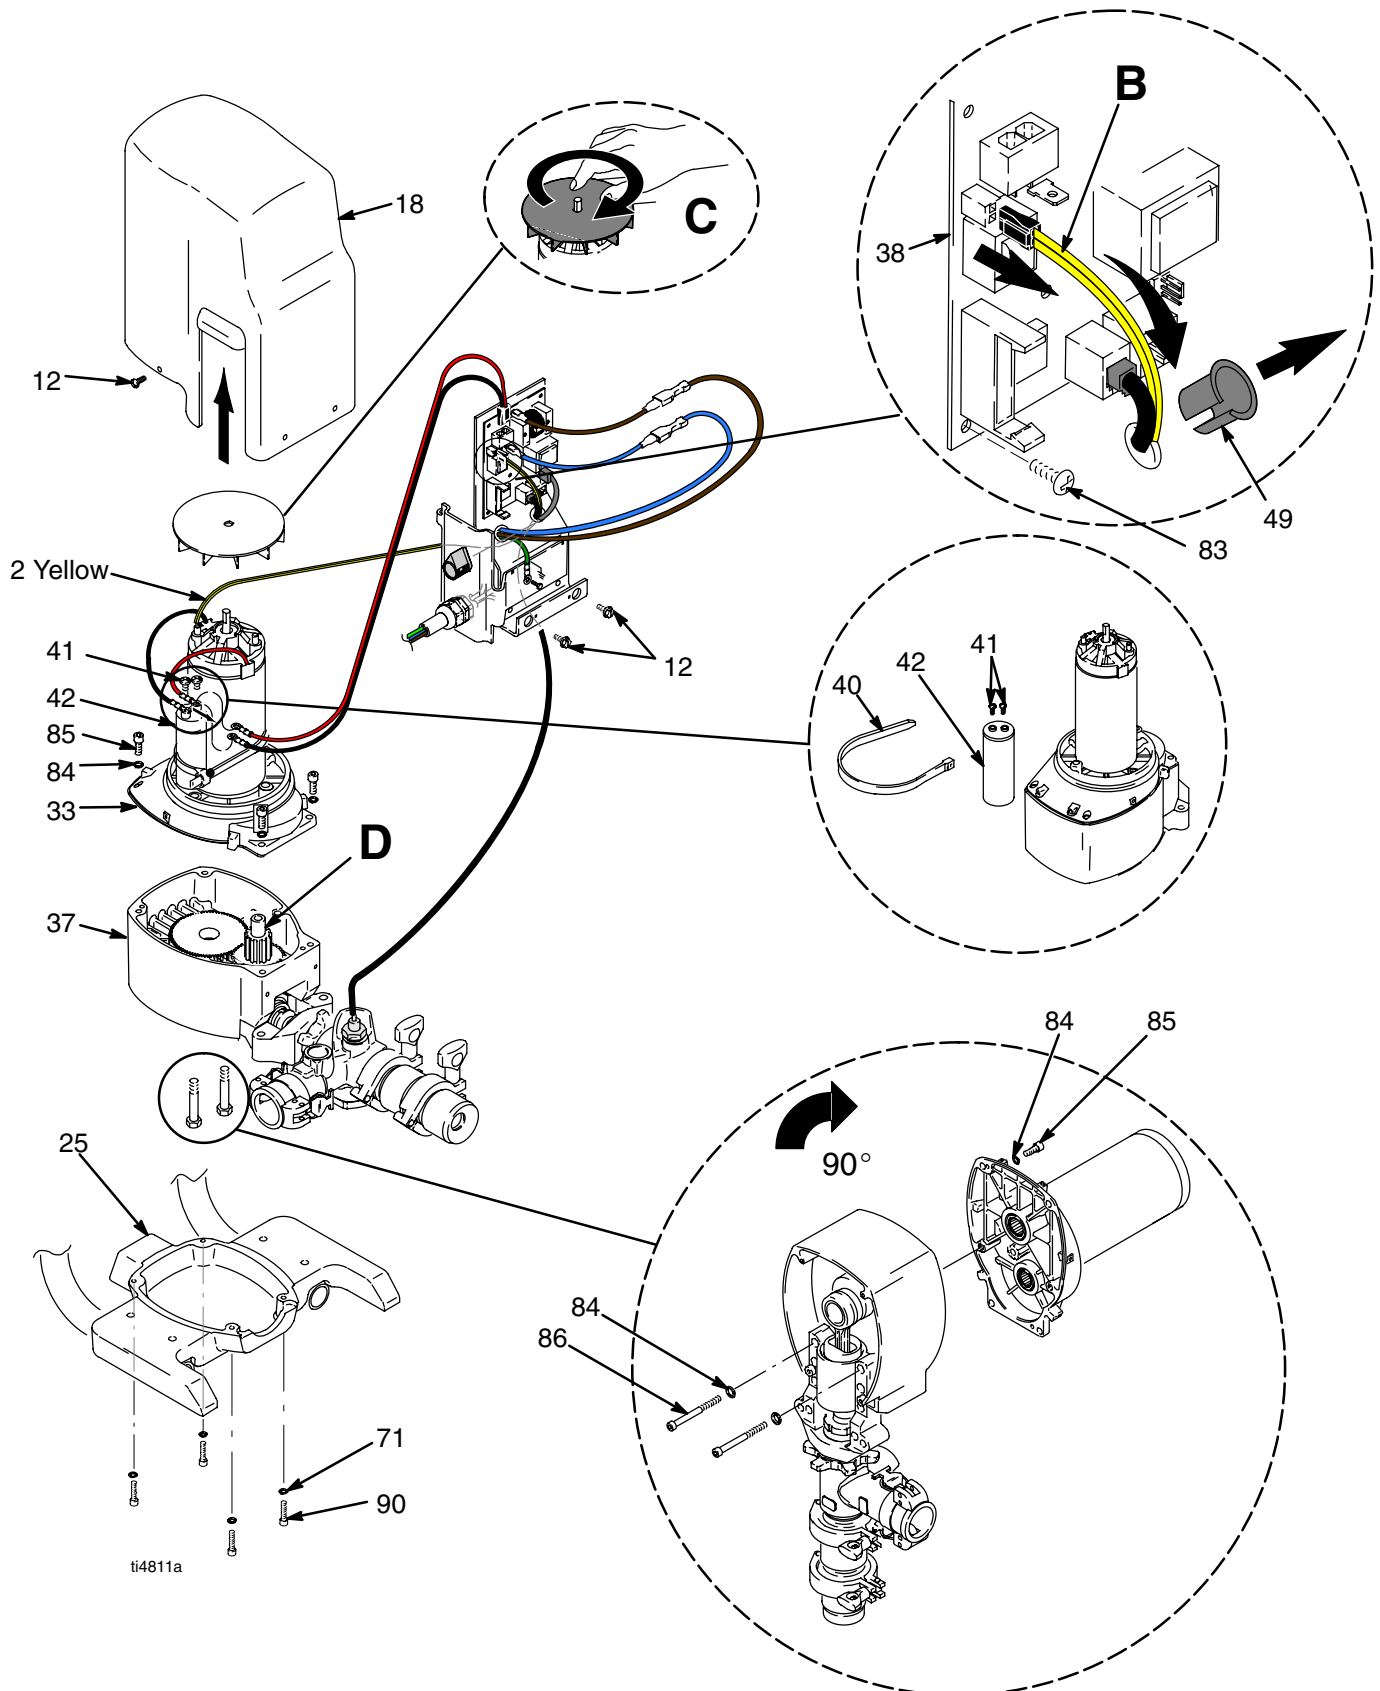

Fig. 6
3. Fig. 6. Remove six screws (12) and motor cover (18).
4. Remove two screws (41) and disconnect leads from capacitor (42) to control board (38).
5. Disconnect two yellow leads (B) from control board (38).
6. Pull strain relief (49) out of bracket and thread yellow leads connector through bracket.
7. Remove four screws (90) and washers (71) from gear housing base (25), **Parts Drawing**, page 24.
8. Tip motor and drive housing assembly back and remove two screws (86) and washers (84).
1. Fig. 6. Place new motor (33) on drive housing (37). Rotate fan (C). When gears are felt to mesh, install four washers (84) and screws (85).
2. Tip motor and drive housing assembly back and install two washers (84) and screws (86).
3. Install motor and drive housing to gear housing base (25) with four screws (90) and washers (71).
4. Thread yellow lead (B) through strain relief (49) and connect to control board (38). Install strain relief in bracket.
5. Connect red brush lead (+) and black brush lead (-) according to markings on the motor and capacitor. Install brush lead ends and wire harness (155) lead ends to capacitor with screw (41). See **Wiring Diagram**, page 27 to verify polarity is correct.
6. Install motor cover (18) with five screws (12).
- Fig. 6. Install motor control board (38) with six screws (83).
- Connect to motor control board (38):
- Two leads (F) from motor thermal switch.
- Lead (E) to transducer.
- Lead (D) to potentiometer.
- Install motor cover (18) with five screws (12).